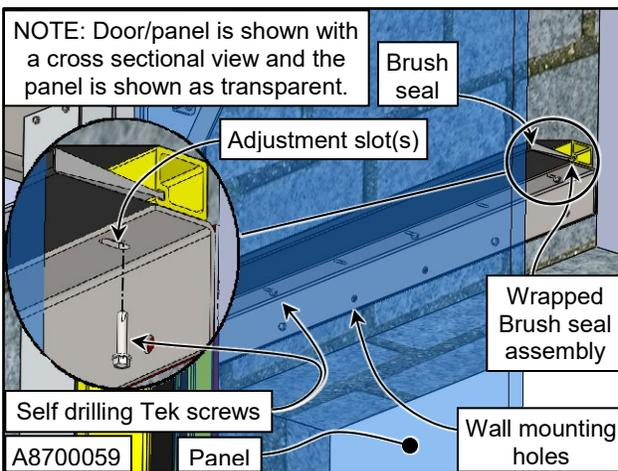

Figure 55
2. Remove the #12-14 x 1.0 Hex head Tek screws. (See Figure 55)
3. Figure 55)